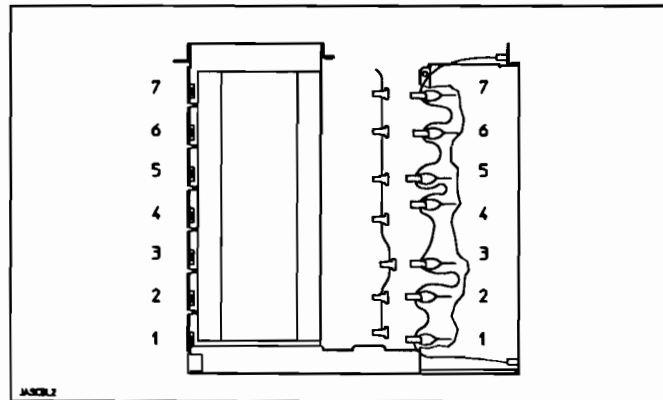

Figure 2-6. Internal Power and SCSI Cables
1. The internal power cable and the internal SCSI cable each have seven connectors — one for each shelf (see Figure 2-6). For 1-shelf devices, connect the power cable and the SCSI cable corresponding to the shelf position occupied by the device. For 2-shelf devices, connect the power cable and the SCSI cable corresponding to the *lowest* shelf position occupied by the device.